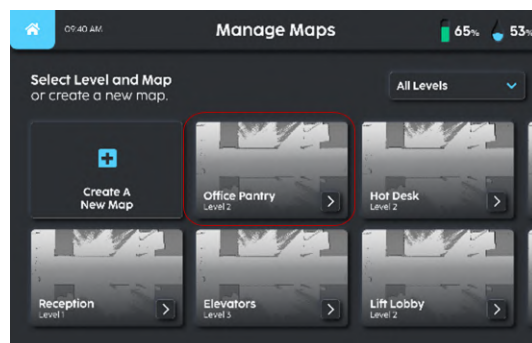
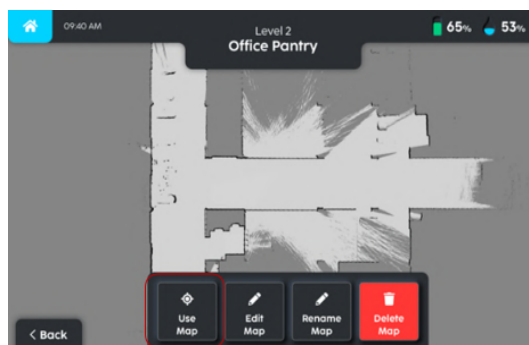

FIGURE 8-4
FIGURE 8-5
2. Select the map that the machine will be operating on (**Fig. 8-4**) and click **Use Map** button (**Fig. 8-5**).